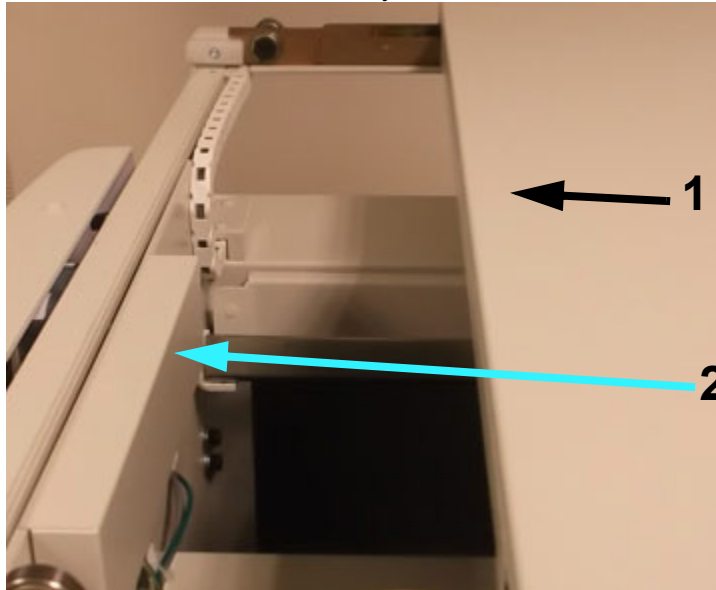

Figure 5-15. Slide Table Top
- 12 Slide the table top (1 in Figure 5-15) and remove cover (2) to expose switch assembly.